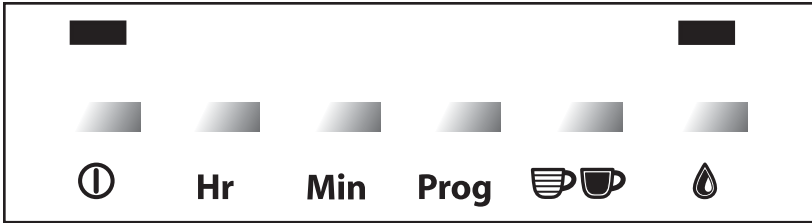

Figure 2
6. You may choose to brew your coffee at a stronger brew strength. To do so, press the Brew Strength Button. A filled coffee cup icon will appear in the Display indicating a stronger brew strength. (See Figure 2).
Your Coffeemaker has a built in multifunction Timer. The following sections describe the proper use of the Timer. (See Figure 2).